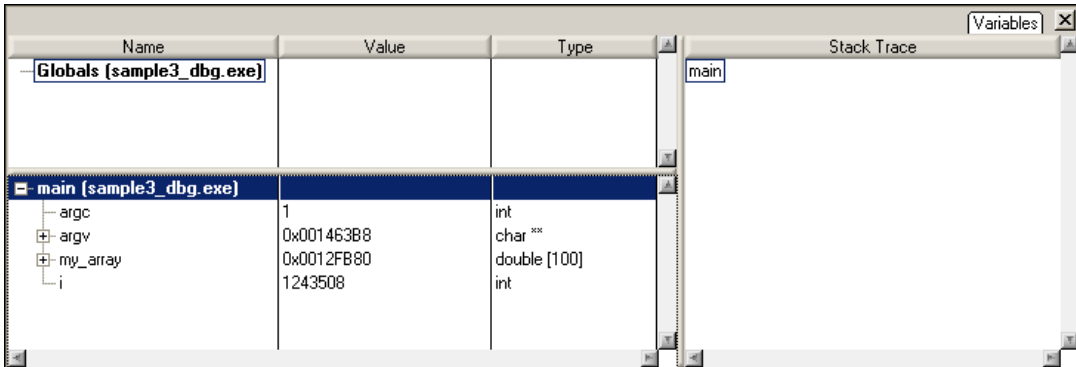

Figure 4-2. Variables Window during Execution of main
3. Select **Window»Variables** to view the Variables window, shown in Figure 4-2.
Note The values you see for your project might differ from the values shown in Figure 4-2.